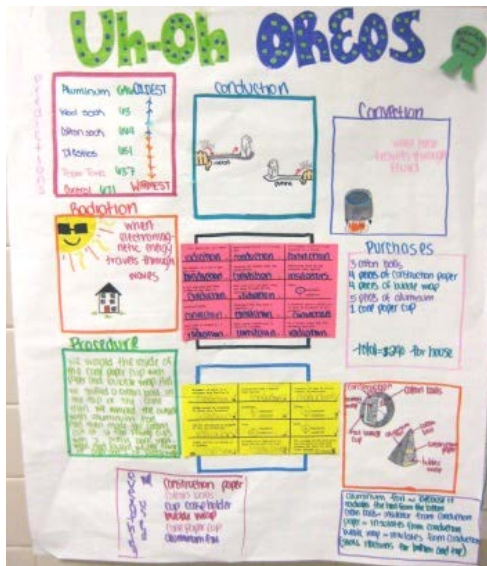

Figure 6
Step 3: Introduce the concept of the story board. A story board is like a comic strip in that it tells a story through drawings and words divided up into sections that flow on into another. Each time students learn a new concept, do an experiment, create a design, or test a design, it should be recorded on the story board for teachers and students to see and comment on. Ideally, the storyboard is on the wall for easy viewing. See Figure 6 for a sample storyboard. Students will add to their storyboards in groups each day.